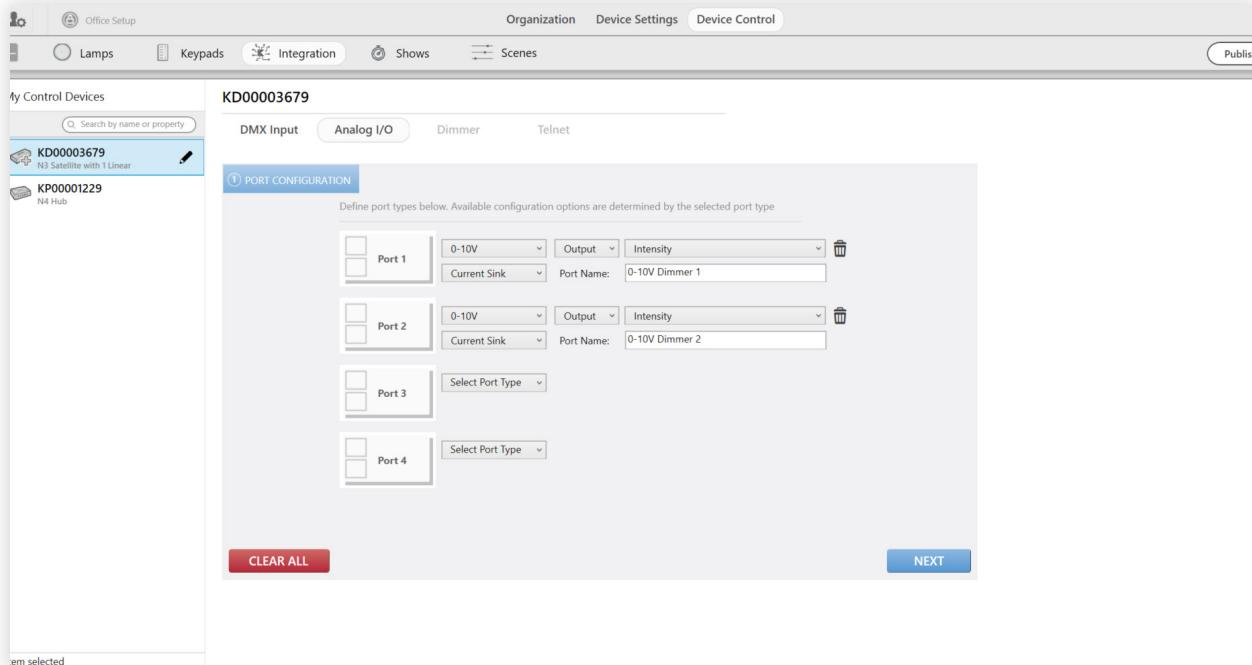

fig. 71
- 3 **Configure the port(s).** Choose between contact-closure and 0-10V; then choose Output. If you are configuring a contact-closure output, choose whether it is normally open or closed. Conversely, if you are configuring a 0-10V output, choose whether the port is a current sink or a current source. See fig. 71.